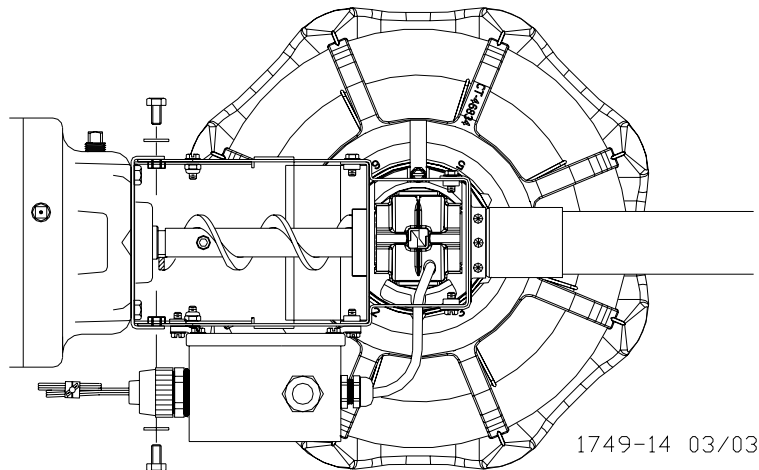

Figure 44. Attaching the Anchor Plate and Gearhead Assembly to the Control Unit Body
7. Attach the Anchor Plate and Gearhead Assembly to the Control Unit Body using the included 1/4" Lock Washers and 1/4-20 x 1/2" Bolts. See **Figure 44**.